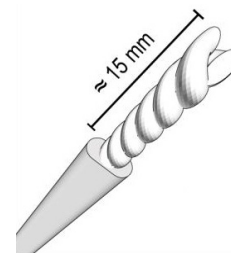

Fig. 01 Measuring point
3. Strip the insulation from the thermocouple at the measuring point in the formwork by at least 15 mm and twist. (Fig. 01)